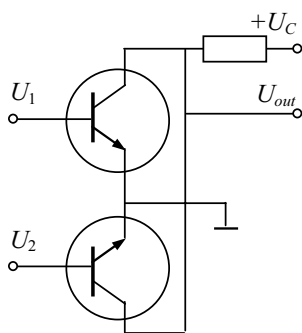

Fig. 2.61
**NOR gate.** The emitter follower is not the only output of the circuit described earlier. The collector output may be used too, if the emitter terminals are grounded as shown in Fig. 2.61. In these circuits, the output signal is inverted regarding to the input. The topology is known as a *NOR gate* (*OR-NOT circuit*). This component is a *NOT OR*, or inverted OR gate. Its output is high only when all the inputs are low.